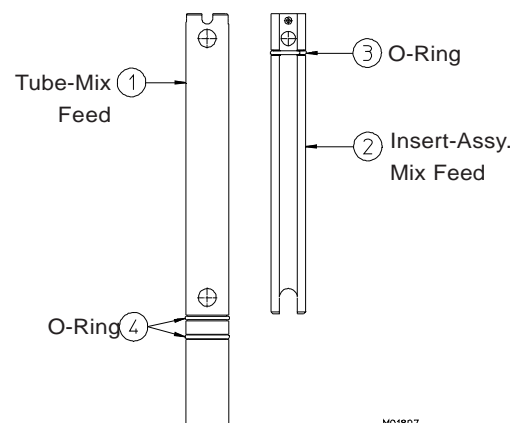

Figure 9-3
4. Remove the mix feed tube from the hopper. (See figure 9-3).